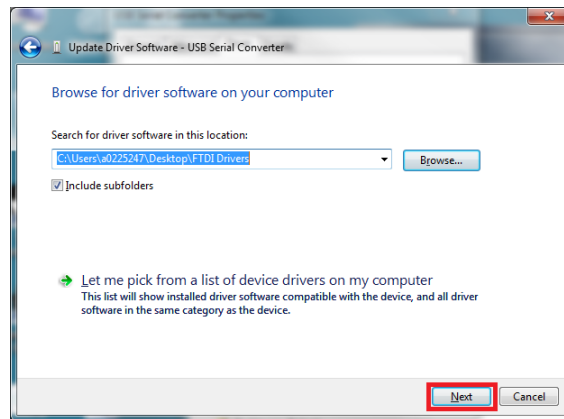

Figure 2-10. Begin The Update Of Drivers
10. Click the **Next** button, shown in Figure 2-10.